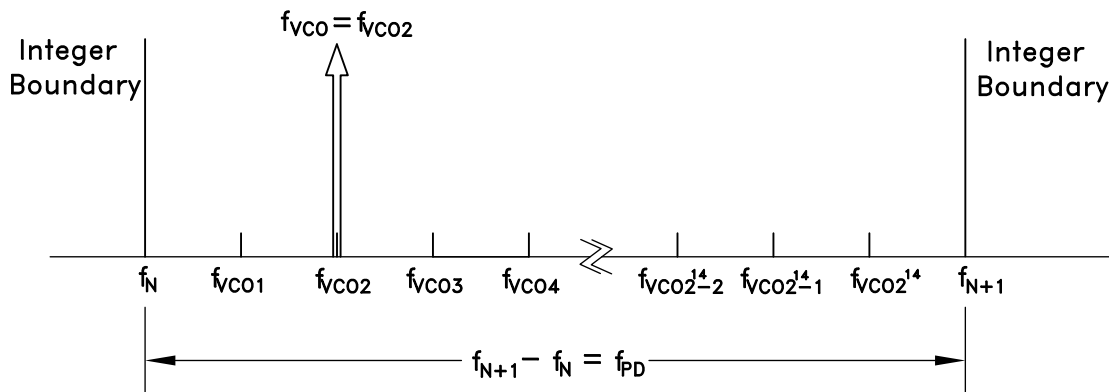

Figure 44. Exact Frequency Tuning
and f_{VCOk} are the channel step frequencies where $0 < k < 2^{24}-1$, As shown in Figure 44.
Some fractional PLLs are able to achieve this by adjusting (shortening) the length of the Phase Accumulator (the denominator or the modulus of the Delta-Sigma modulator) so that the Delta-Sigma modulator phase accumulator repeats at an exact period related to the interval frequency ($f_{VCOk} - f_{VCO(k-1)}$) in Figure 44. Consequently, the shortened accumulator results in more frequent repeating patterns and as a result often leads to spurious emissions at multiples of the repeating pattern period, or at harmonic frequencies of $f_{VCOk} - f_{VCO(k-1)}$. For example, in some applications, these intervals might represent the spacing between radio channels, and the spurious would occur at multiples of the channel spacing.
If it is desirable to have multiple, equally spaced, exact frequency channels that fall within the same interval (ie. $f_N \leq f_{VCOk} < f_{N+1}$) where f_{VCOk} is shown in Figure 44 and $1 \leq k \leq 2^{14}$, it is possible to maintain the same integer-N (Reg 03h) and exact frequency register (Reg 0Ch) settings and only update the fractional register (Reg 04h) setting. The Exact Frequency Channel Mode is possible if (EQ 17) is satisfied for at least two equally spaced adjacent frequency channels, i.e. the channel step size.
To configure the HMC833LP6GE for Exact Frequency Channel Mode, initially and only at the beginning, integer (Reg 03h) and exact frequency (Reg 0Ch) registers need to be programmed for the smallest f_{VCO} frequency (f_{VCO1} in Figure 44), as follows:
1. Calculate and program the integer register setting $\text{Reg 03h} = N_{INT} = \text{floor}(f_{VCO1}/f_{PD})$, where f_{VCO1} is shown in Figure 44 and corresponds to minimum channel VCO frequency. Then the lower integer boundary frequency is given by $f_N = N_{INT} \cdot f_{PD}$.
$$\text{Reg04h} = N_{FRAC} = \text{ceil} \left(\frac{2^{24} (f_{VCOk} - f_N)}{f_{PD}} \right) \quad \text{where } f_N = \text{floor}(f_{VCO1}/f_{PD}), \text{ and } f_{VCO1}, \text{ as shown in Figure 44, represents}$$
4. To change from channel 1 ($f_{VCO1} = 2800.2$ MHz) to channel 2 ($f_{VCO2} = 2800.3$ MHz), only Reg 04h needs to be programmed, as long as all of the desired exact frequencies f_{VCOk} (Figure 44) fall between the same integer-N boundaries ($f_N < f_{VCOk} < f_{N+1}$). In that case